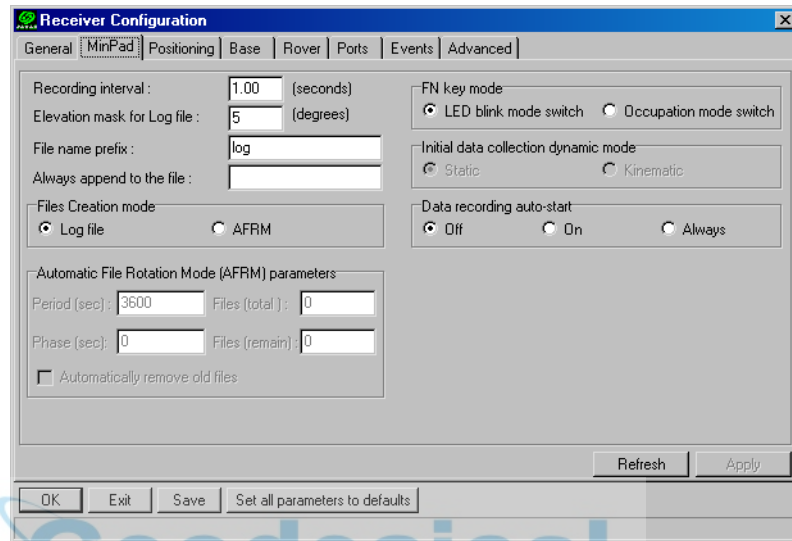

Figure 2-21. Receiver Configuration – MinPad Tab
5. Click the **MinPad** tab, set the following parameters and click **Apply** (Figure 2-21). See the following pages for descriptions of these parameters.